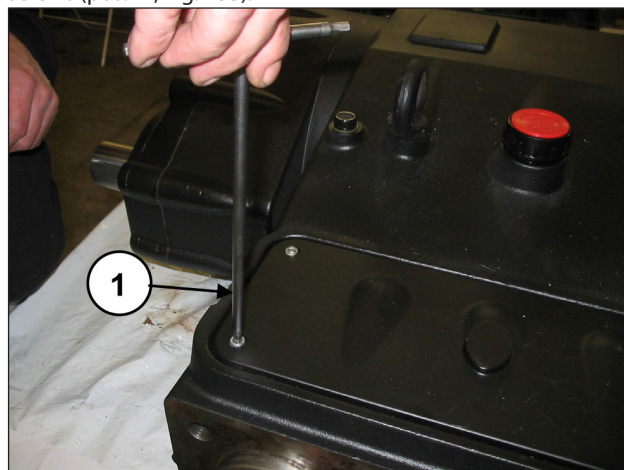

Fig. 133
Remove the upper inspection cover, unscrewing the 4 fixing screws (pos. ①, Fig. 133).